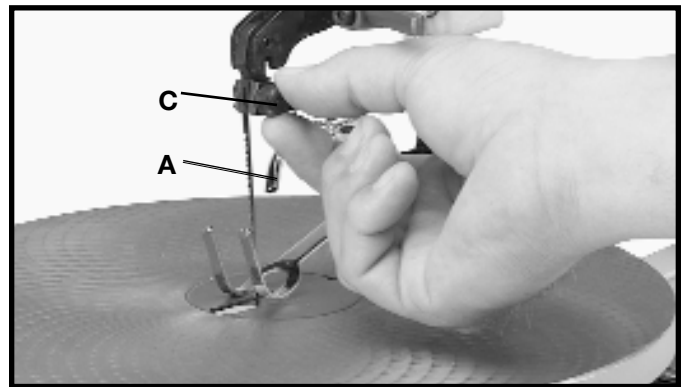

Fig. 29
2. Turn locknut (C) Fig. 29, clockwise to tighten and counterclockwise to loosen the clamping action of the, blade holder. Very little movement of locknut (C) is necessary.